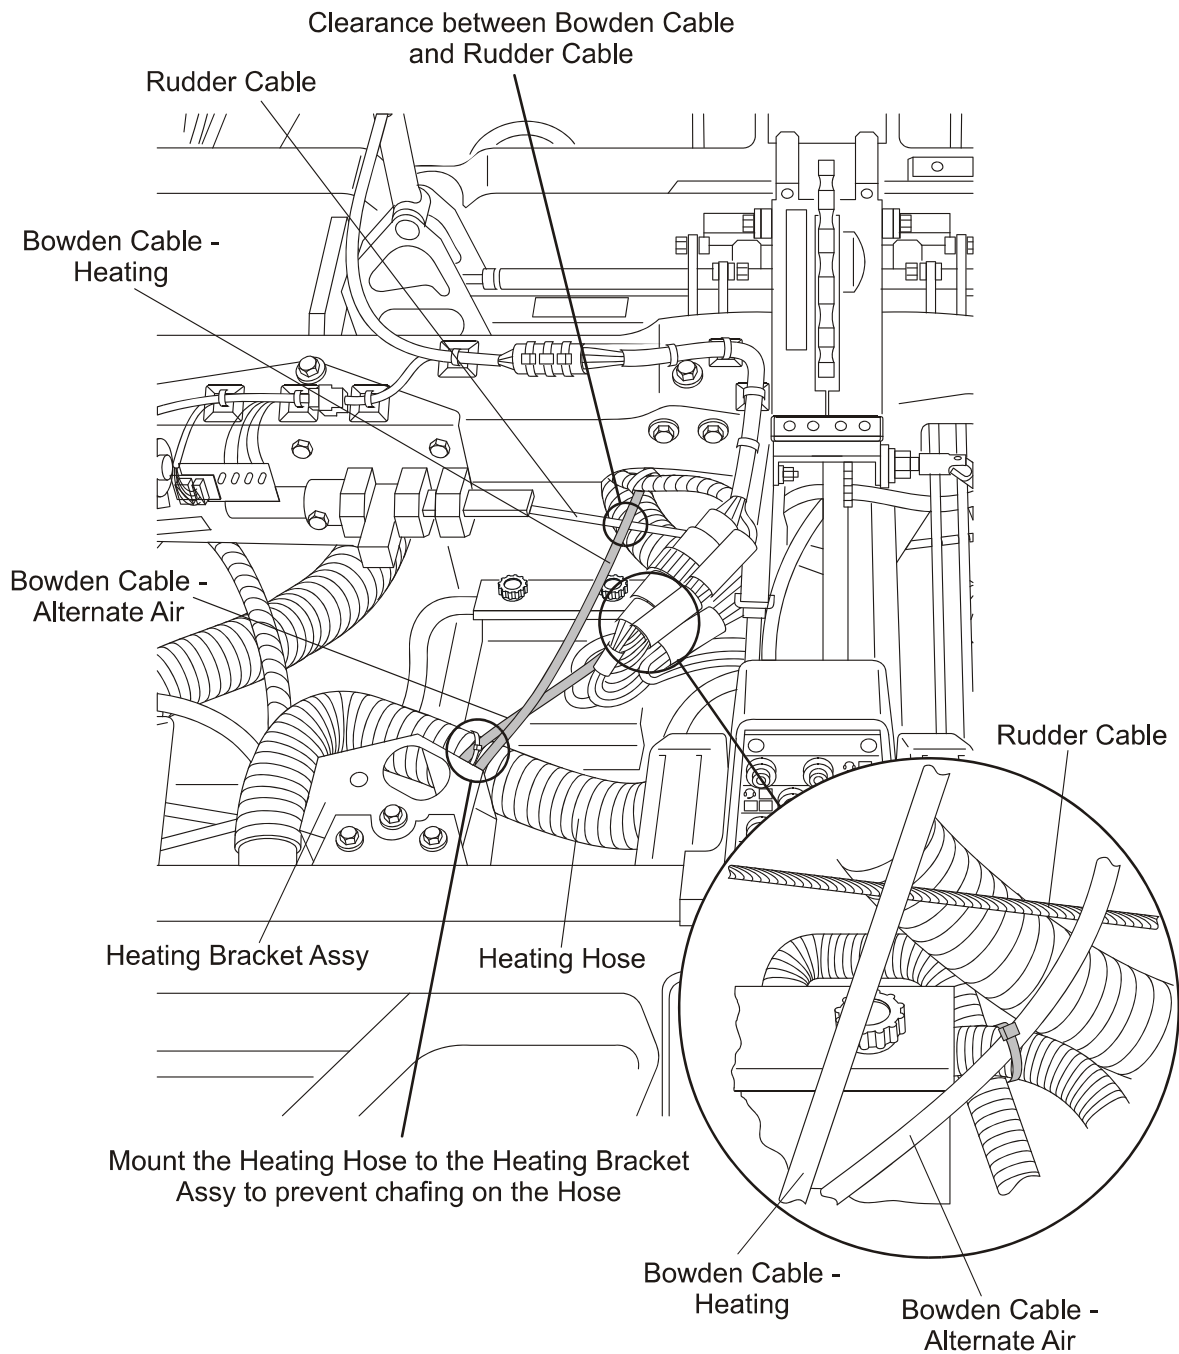

Figure 4: Routing in Center Wing - Detail 3
(2) Radial Placement**Figure 4: Installation with Two Worm Drive Clamps (Radial Placement)**